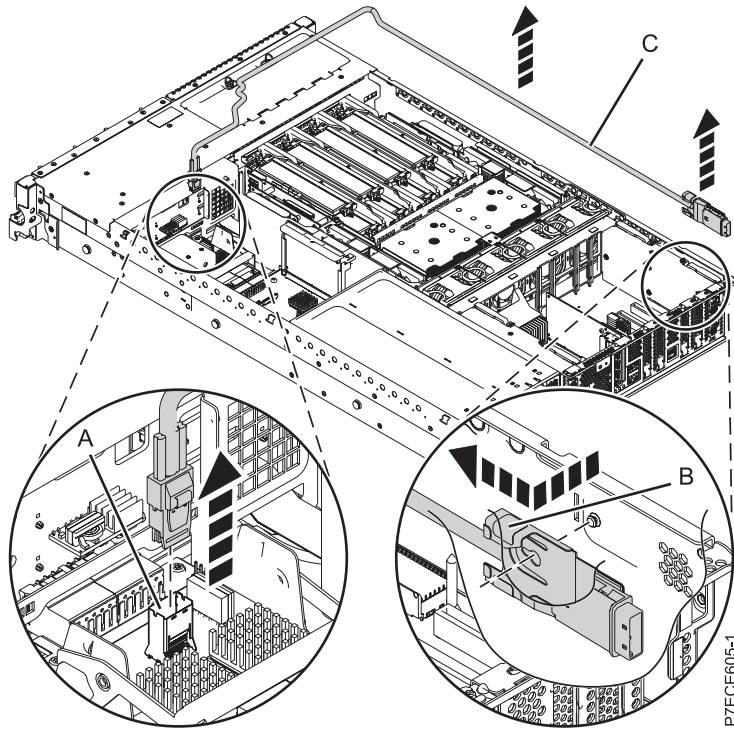

Figure 38. Removing the external SAS port
- 1) Press the side tab **(B)** and pull out the SAS shroud from the external SAS connection port on the disk drive backplane. See Figure 38 on page 53.